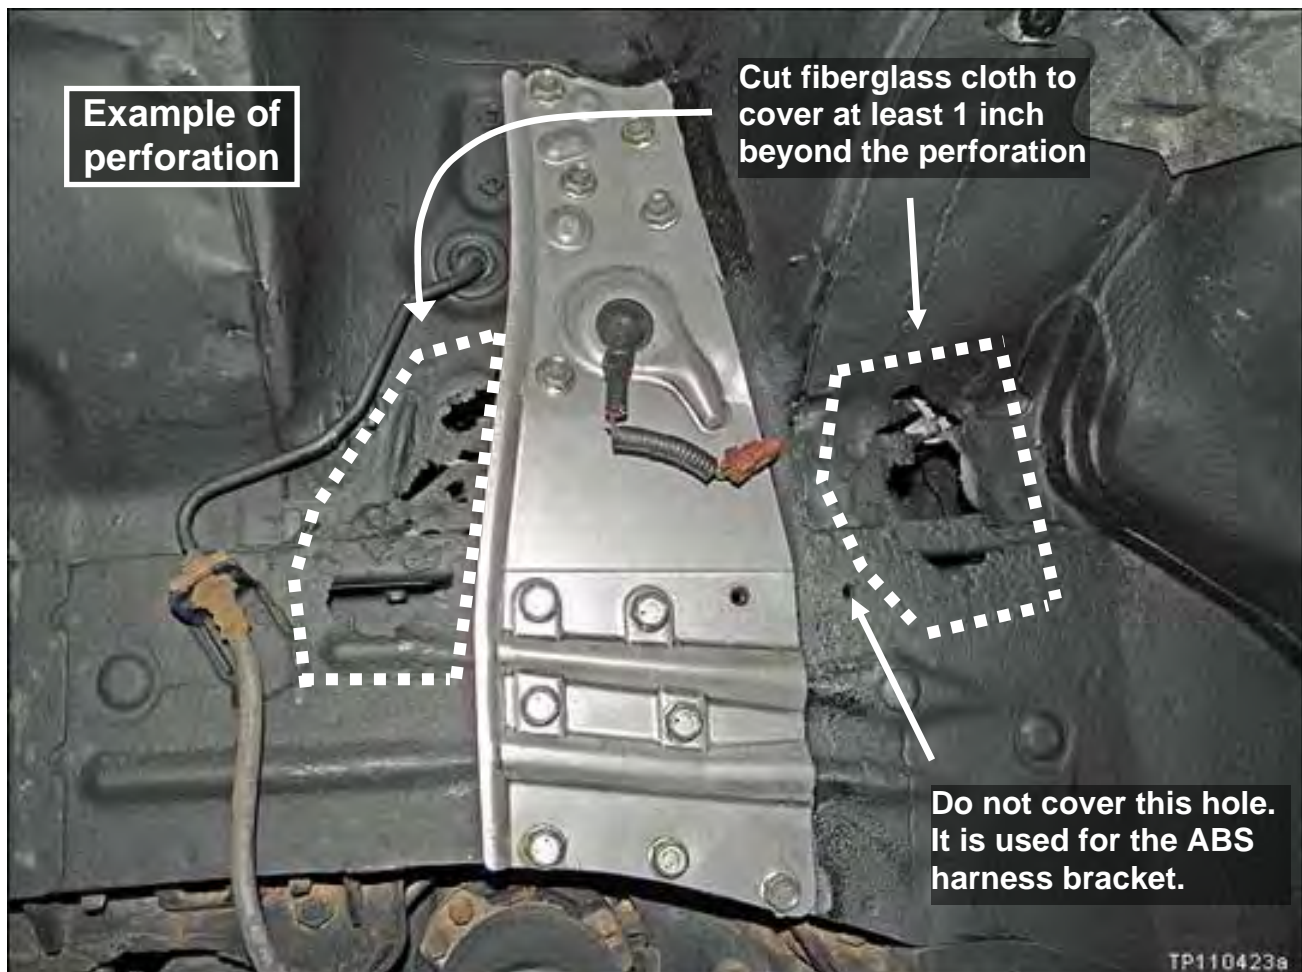

Figure RB29
NOTE: The Photo in Figure RB29 is an example of possible perforation. The vehicle you are working on may have perforation in additional areas, areas different than these, or may not have any perforation.
33. Cut fiberglass cloth to cover perforated areas (see example in Figure RB29).